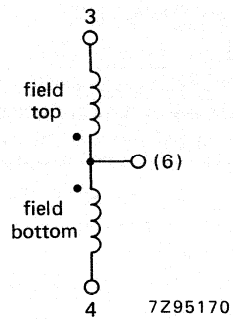

Fig. 2b Field coils.
**Field deflection coils, series connected ( Fig. 2b) terminals 3 and 4**